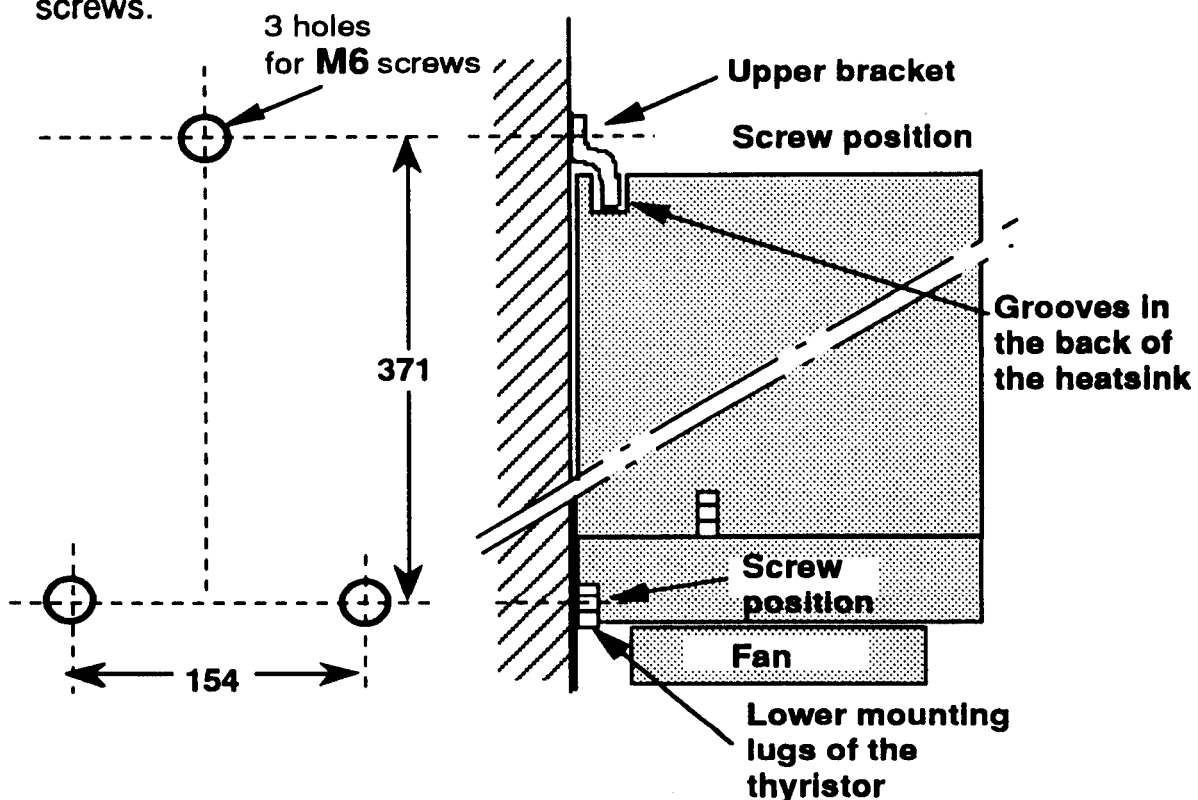

Figure 2.3. Drilling details and mounting of a convection cooled unit, bulkhead mounting
- b. Position the two lower **M6** screws into the panel. Ensure that the drilling dimensions (see fig. 2.3) are respected.